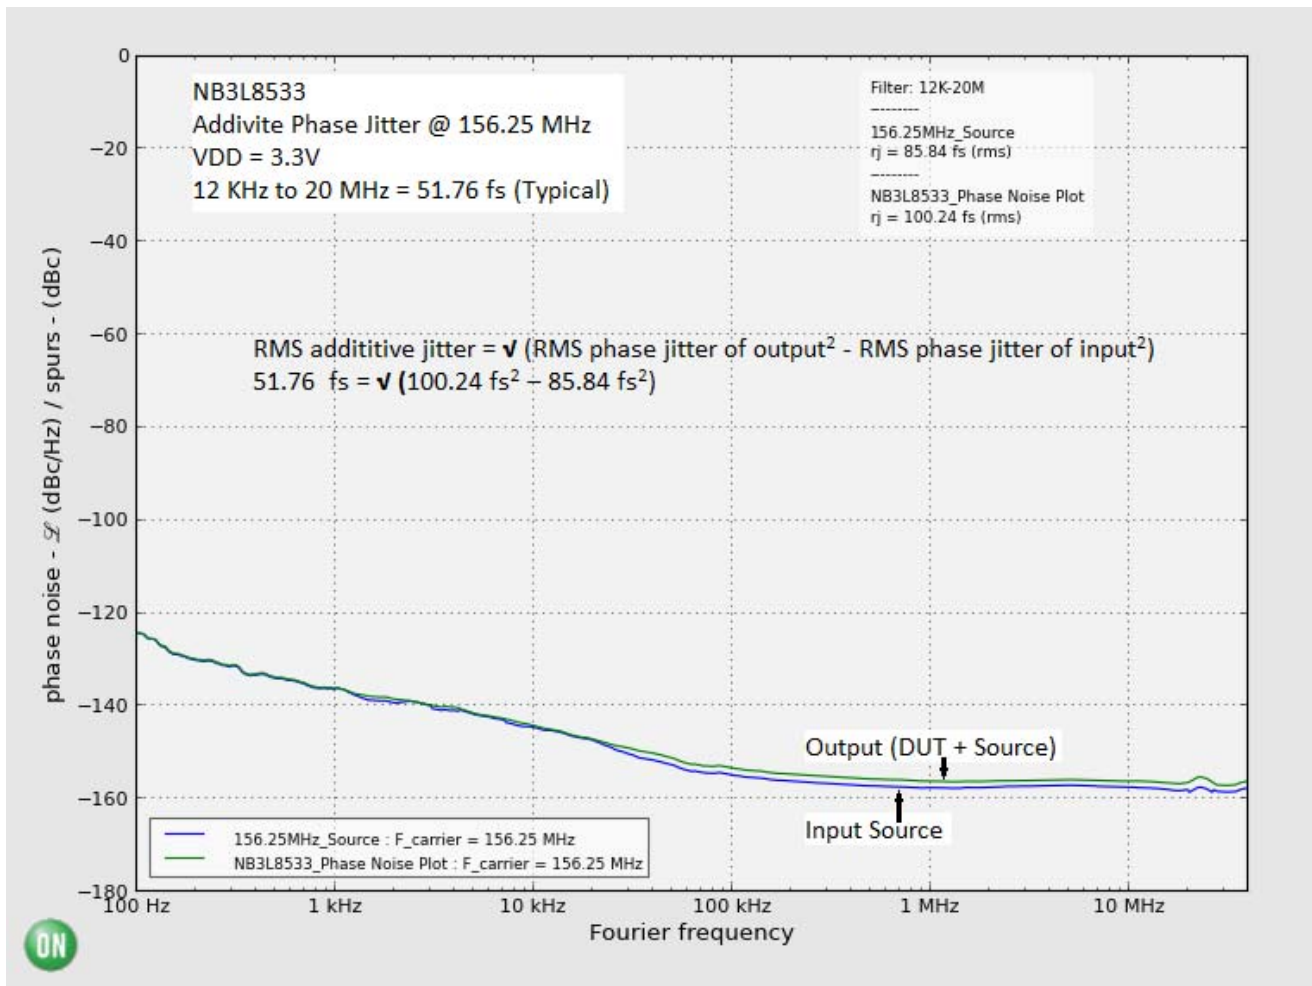

Figure 3. Typical Phase Noise Plot at $f_{\text{carrier}} = 156.25 \text{ MHz}$ at an Operating Voltage of 3.3 V, Room Temperature
1. After CLK_EN switches, the clock outputs are disabled or enabled following a rising and falling input clock edge as show in Figure 3.